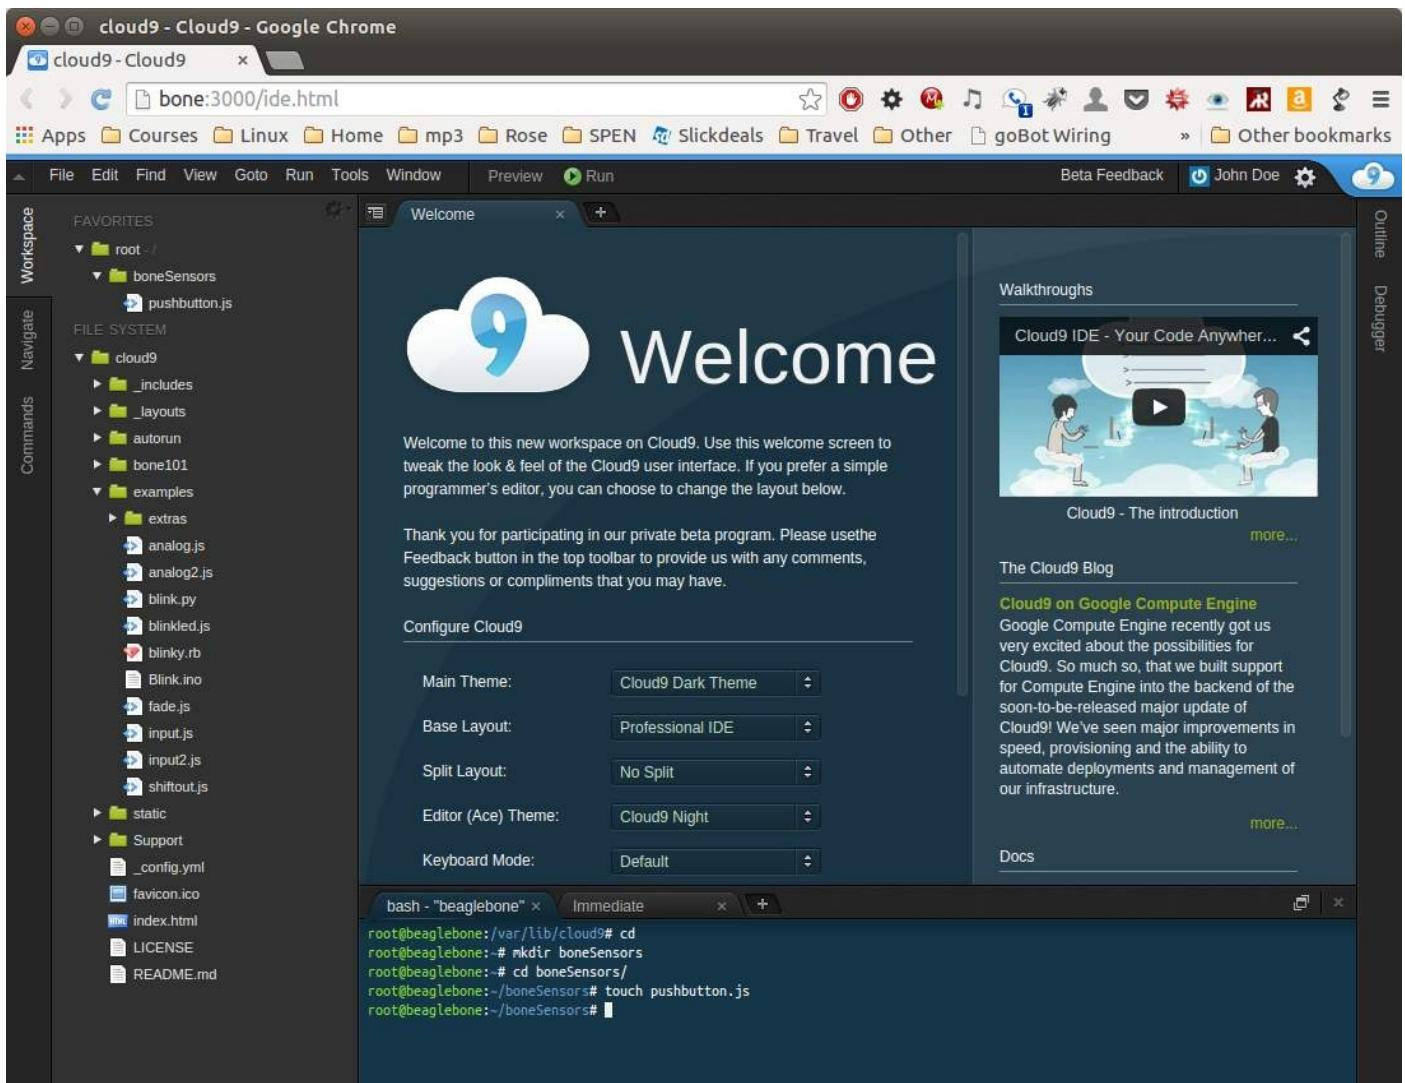

Figure 2-4. Entering commands in the Cloud9 bash tab
3. In the bash tab (as shown in Figure 2-4), run the following commands: